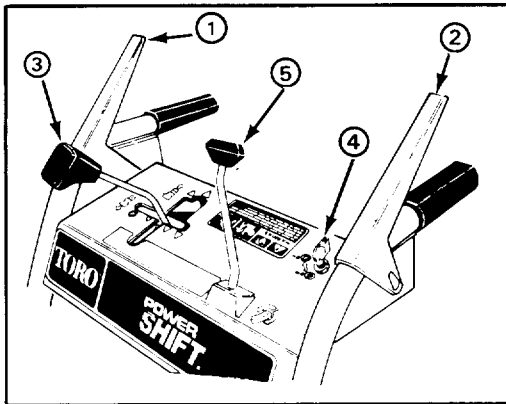

Figure 9.
Auger/Impeller Control (Fig. 9) — Control has two positions: ENGAGE and DISENGAGE. To engage auger and impeller, compress lever against right handle grip. To disengage, release lever.
Traction Drive Control (Fig. 9) — To engage traction or activate power shift system, lever must be compressed against left handle grip. To stop traction, release lever.
Speed Shift Control (Fig. 9) — The control has four speeds forward and two reverse and also controls power shifting of wheels. To select speeds, move shift control to desired position.
Auger Lock-Up: (Fig. 9) — When auger/impeller control and traction drive control are both compressed, the traction control locks the auger/impeller control down. Releasing the traction control releases the auger/impeller.
Discharge Chute Control (Fig. 9) — Rotate discharge chute control clockwise to move discharge chute to the right and counterclockwise
Ignition Switch (Fig. 9) — Switch has two positions: ON and OFF. Rotate key to ON position before starting engine. To stop engine, rotate key to OFF.
1. Move speed selector to N — neutral — and throttle to FAST (Fig. 9).
4. Rotate ignition key to ON (Fig. 9).
1. Release traction and auger/impeller drive controls (Fig. 9).